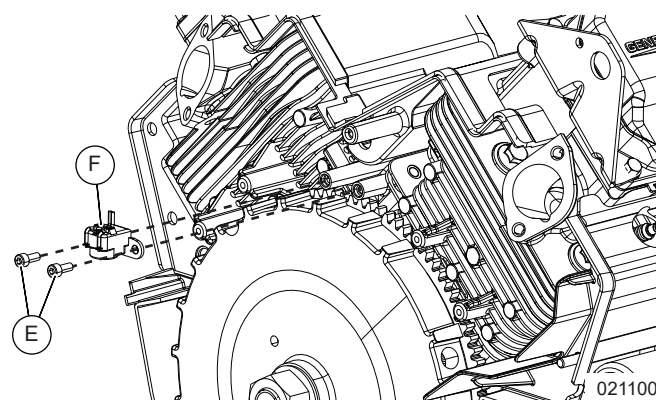

Figure 6-21. Remove Crankshaft Position Sensor
2. See Figure 6-21. Remove bolts (M) securing crankshaft position sensor (N). Remove crankshaft position sensor from engine.